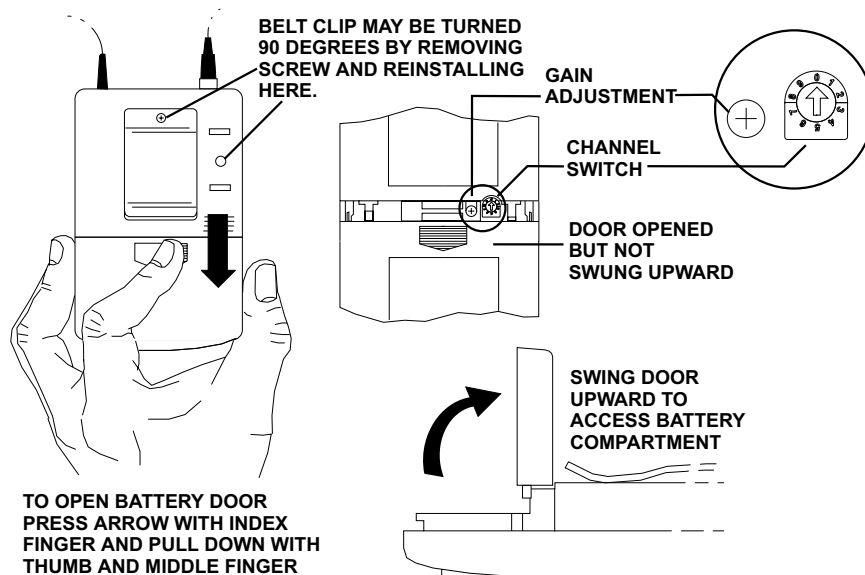

Figure 11
1. **Insert battery.** Open the hinged battery compartment by placing your thumb or finger on the indent labeled OPEN on the battery door and pushing down, see Figure 11. When inserting the battery, pay attention to the polarity (+/-) and insert the terminals into the battery compartment first. Close the battery door by sliding the door shut.
8. **Adjust the transmit gain if necessary.** Gently insert the provided screwdriver or other 3/32-in. 2.4mm screwdriver into the gain adjustment located at the top edge of the battery compartment under the door (see Figure 11). The door has to be opened but not swung upward to make adjustments. Turn lightly until the screwdriver tip drops into the slot on the level control. Gently turn the control counterclockwise until the control stops (the audio output is attenuated but not “off”). Slowly turn the audio level control clockwise while listening to audio; if the audio becomes distorted, turn the mic level control counter-clockwise about 1/8 turn.